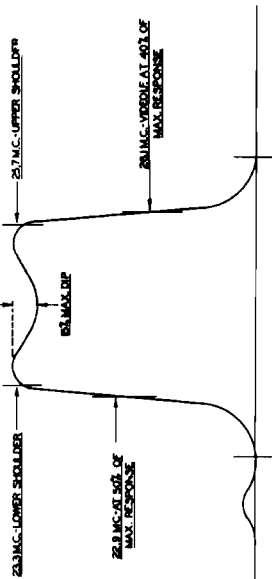

Figure 7 IF Response Curve
5. The signal generator may now be used as a marker by lightly coupling the generator by means of a few turns of wire placed near the dummy converter tube. The output of the generator is increased until a marker is visible on the scope pattern of the video IF response curve. The curve should appear as shown in Figure 7 below.